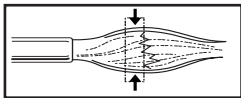
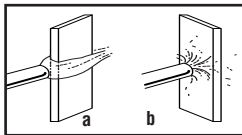

Figure 4:
Figure 5: Heat Angle
2. **Heating Technique:** The maximum heat zone of the air/fuel tip is very concentrated. It is located between 1 and 2 tip diameters away from the end of the tip (Figure 4). If you hold the torch too close or too far away, there will be noticeably less heat. The angle at which the heat is applied can also increase the target heat (Figure 5).